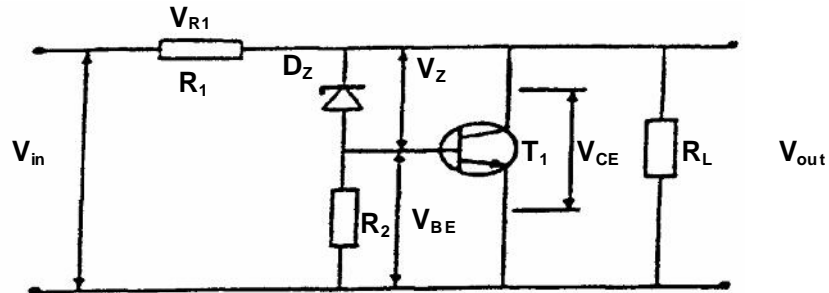

Figure 8.1
8.2.1 Identify the circuit in **Figure 8.1**. (1)